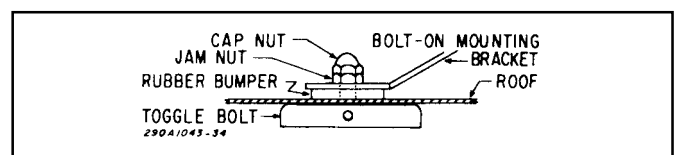

Figure 4.
G. Insert a toggle bolt into each hole, then place a rubber bumper over each toggle bolt (see figure 4) . Next, place the permanent mounting brackets down over the ends of the toggle bolts and screw-on jam nuts. Tighten the jam nuts. Saw-off the toggle bolts 3/16-inch above the jam nuts and screw-on the cap nuts. The unit should now be solidly anchored to the roof. Reinstall dome.